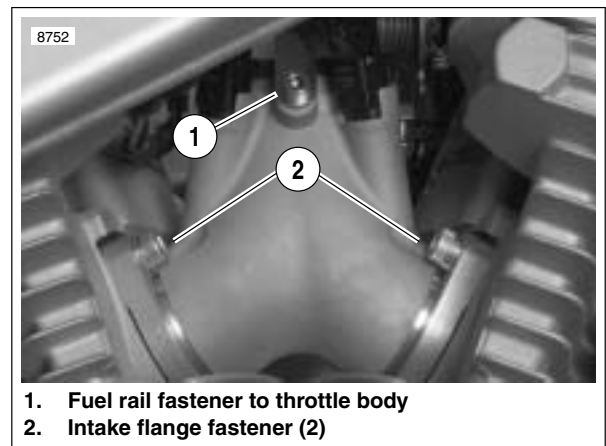

Figure 4-104. Intake Manifold Fasteners (gearcase cover side)
- b. See Figure 4-104. Remove fuel rail fastener (1) that holds the fuel rail to the throttle body and manifold.